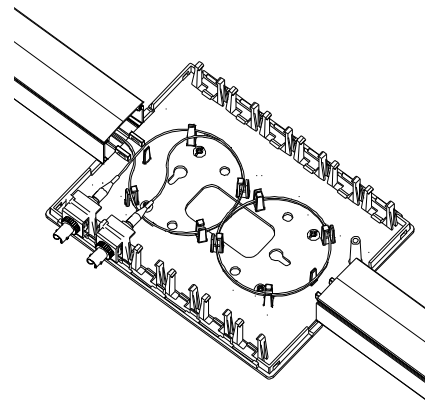

Figure 5
5. For optical fiber cable installation, allow enough slack to store 1 meter of fiber cable after termination. Terminate fiber using instruction sheets provided with fiber product and route excess fiber around storage posts in base to maintain proper bend radius. See Figure 5.